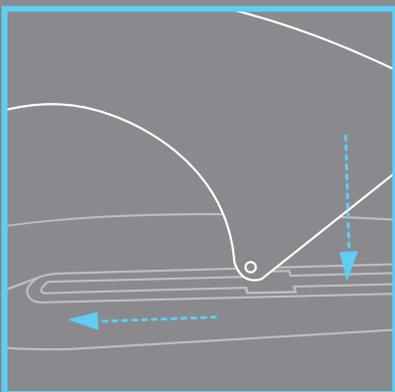

Figure 3.
- Insert the fin into the fin box slot via the central gap, slide the fin to the back and firmly push down the other end (**Figure 3**).